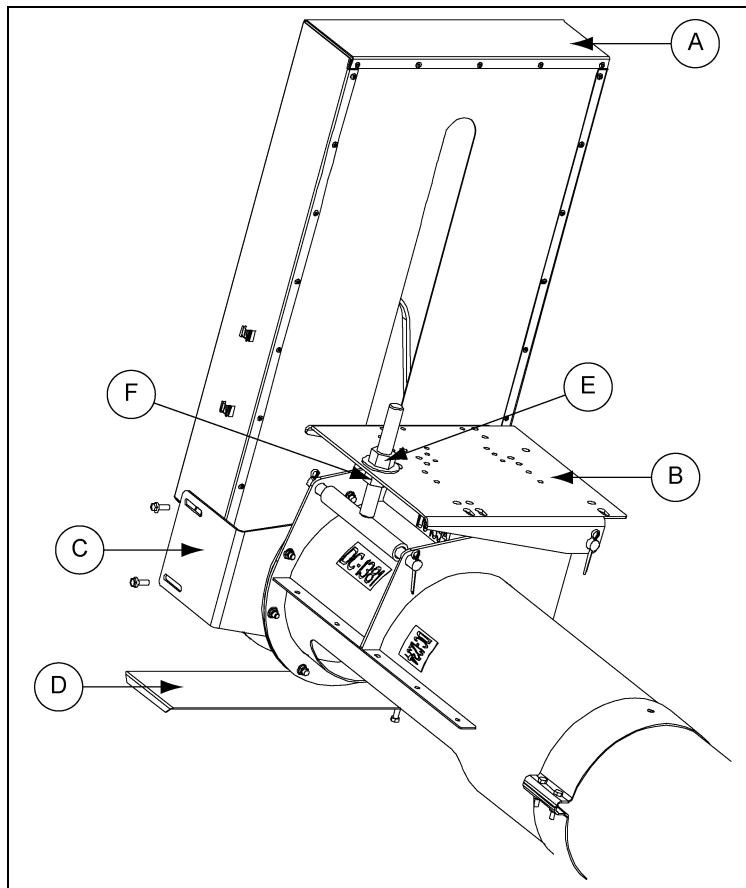

Figure 4J
3. Once the desired tension is reached, tighten the upper motor mount adjustment nut down onto the motor mount plate to lock it into place. *(See Figure 4J on Page 21.)*
1. With the belts properly tensioned, remove the bottom belt guard cover (D) and slip belt guard down over motor shaft.
2. Bolt the belt guard (D) to the belt guard mounting brackets (C). Note that the brackets should still be loose at this time.
3. Align the motor shaft and the flight drive shaft in the belt guard's slot, making sure that the belt guard DOES NOT contact either pulley or shaft and tighten down the belt guard mounting brackets (C) to the bearing plate. *(See Figure 4J.)*
4. Once the brackets are tightened, slide the bottom cover (D) back into place and secure with supplied bolt.